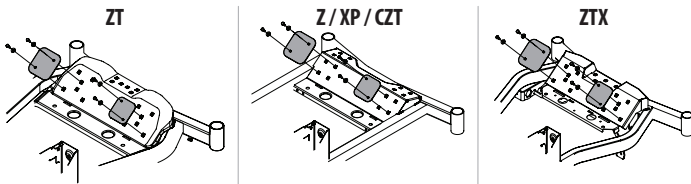

Figure 1
**NOTE:** Top plate location differs by model. To identify correct positioning, see Figure 1.